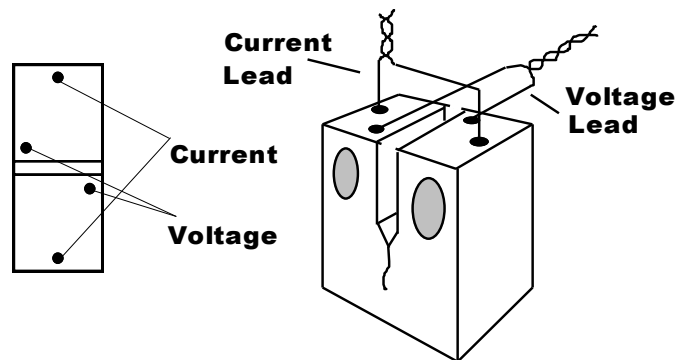

Fig 15. General ACPD connection locations
For a typical compact tension specimen (CT) the connections should be made as shown in Fig. 15 below.